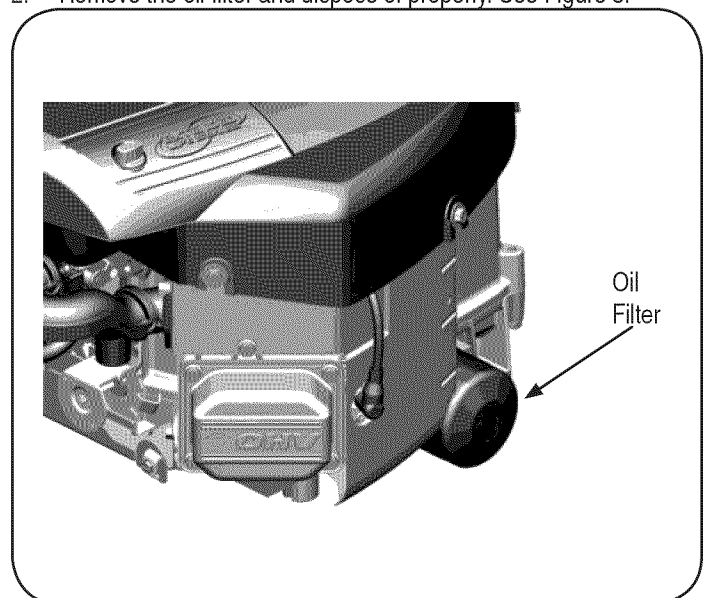

Figure 8
2. Remove the oil filter and dispose of properly. See Figure 8.